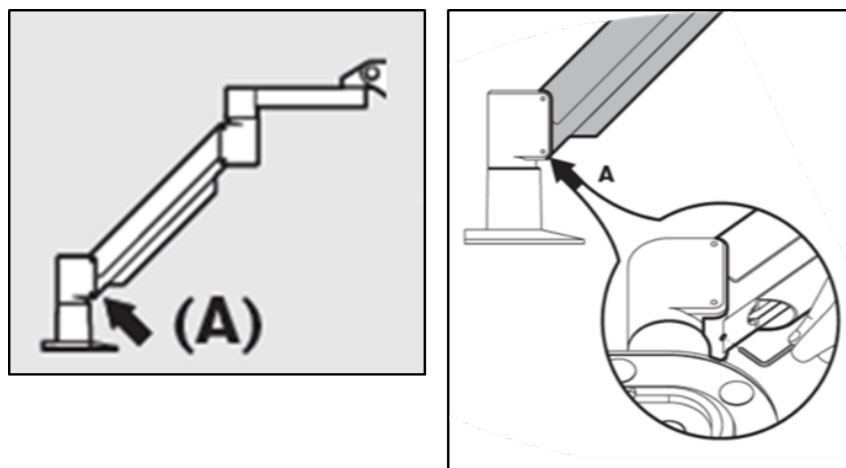

Figure 4-5. Loosen Counterbalance Set Screw A
- If the arm drifts downward, lift the arm to the top of its range and loosen Counterbalance Set Screw A by turning the screw at least a $\frac{1}{2}$ turn. Use a $\frac{3}{32}$ Allen Wrench. See Figure 4-5.
- Raise the arm to the highest position and tighten Counterbalance Set Screw A until contact is made, then tighten $\frac{1}{2}$ to $\frac{3}{4}$ max revolutions. See Figure 4-5.